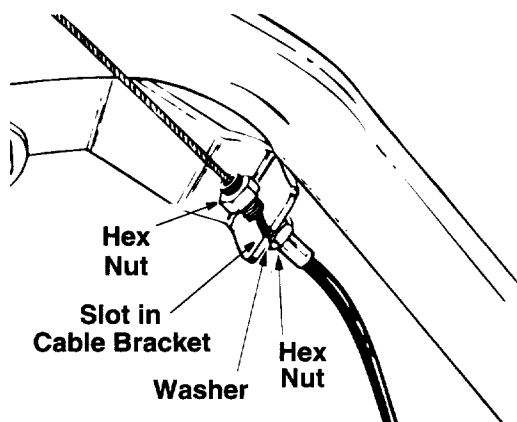

Figure 5
2. Slip the wire through the slot on the cable bracket on the handle. Push the end of the casing up through the cable bracket. Slide the lock washer on the casing and rethread the hex nut on the end of the cable casing, four turns. Do not tighten at this time. See Figure 5.
If the belt turns with the unit in neutral, adjust by moving the hex nut below the cable bracket **down** two full turns. See Figure 5. Tighten the upper hex nut against the bracket.